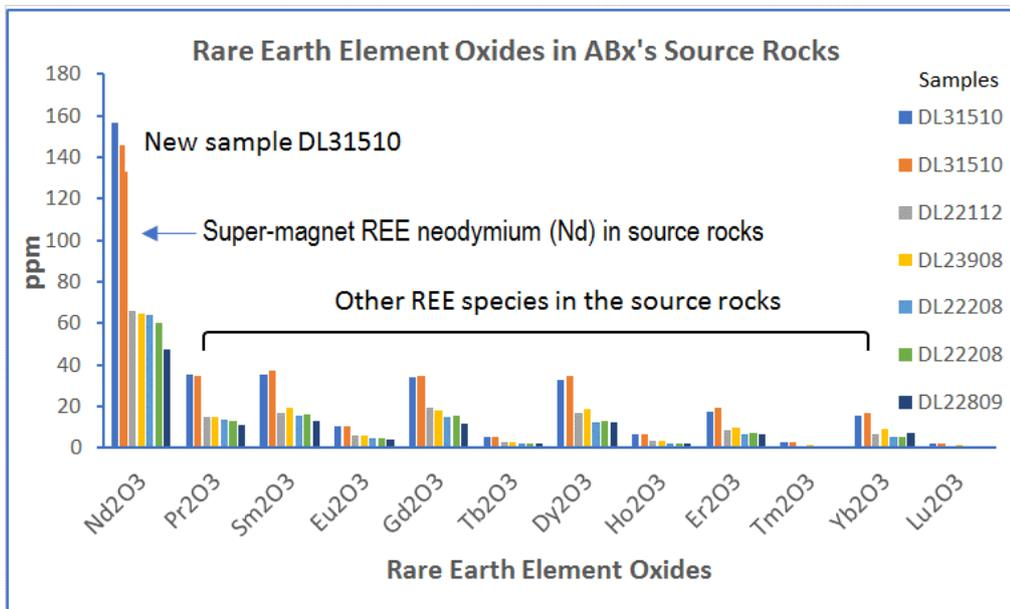

Figure 1
- The new sample taken from 9 to 10 metres depth in hole DL315 returned the highest Nd grade to date and is located 500 metres east of the next most Nd-enriched sample (see Figure 1)